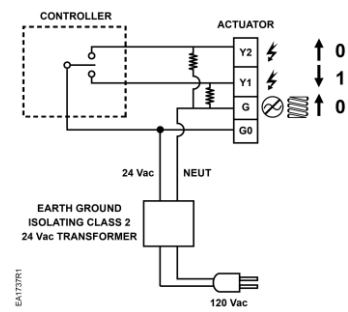

Figure 12. SSD81.51U Hot
- Because the triacs on TECs and DXRs always switch hot power, add a 1000 Ohm 2-Watt resistor across each of the binary (Y1, Y2) outputs (see Figure 12). The two resistors must be used for all hot-switching triacs not just TEC and DXR.